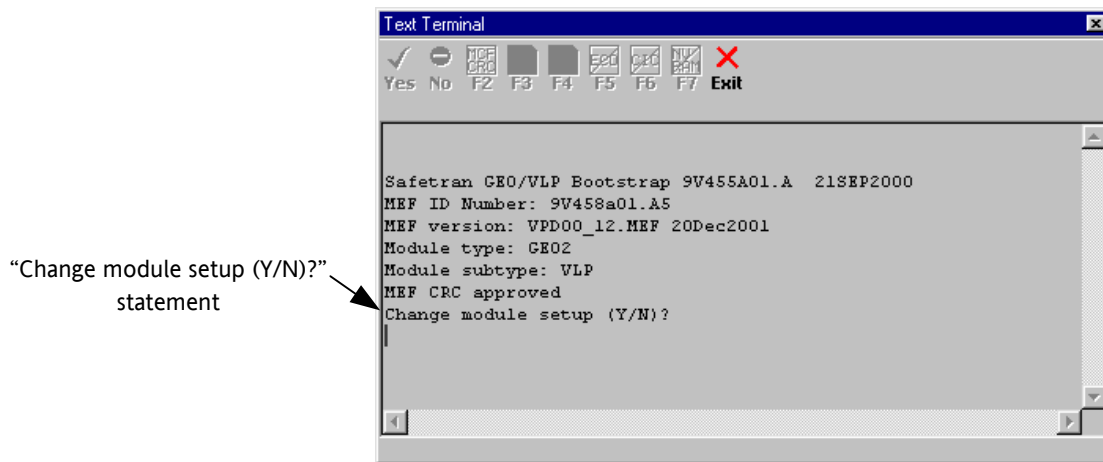

Figure 3-7
3. Click on **Yes** to proceed with the reboot. The text terminal screen is displayed (figure 3-7), scrolling data in the text field as it is received from GEO™ module.
4. When the “Change module setup (Y/N)?” prompt appears in the text terminal screen (refer to figure 3-7), quickly click on the **Yes** button at the top of the screen (before the watchdog timer can time out and continue with bootup).